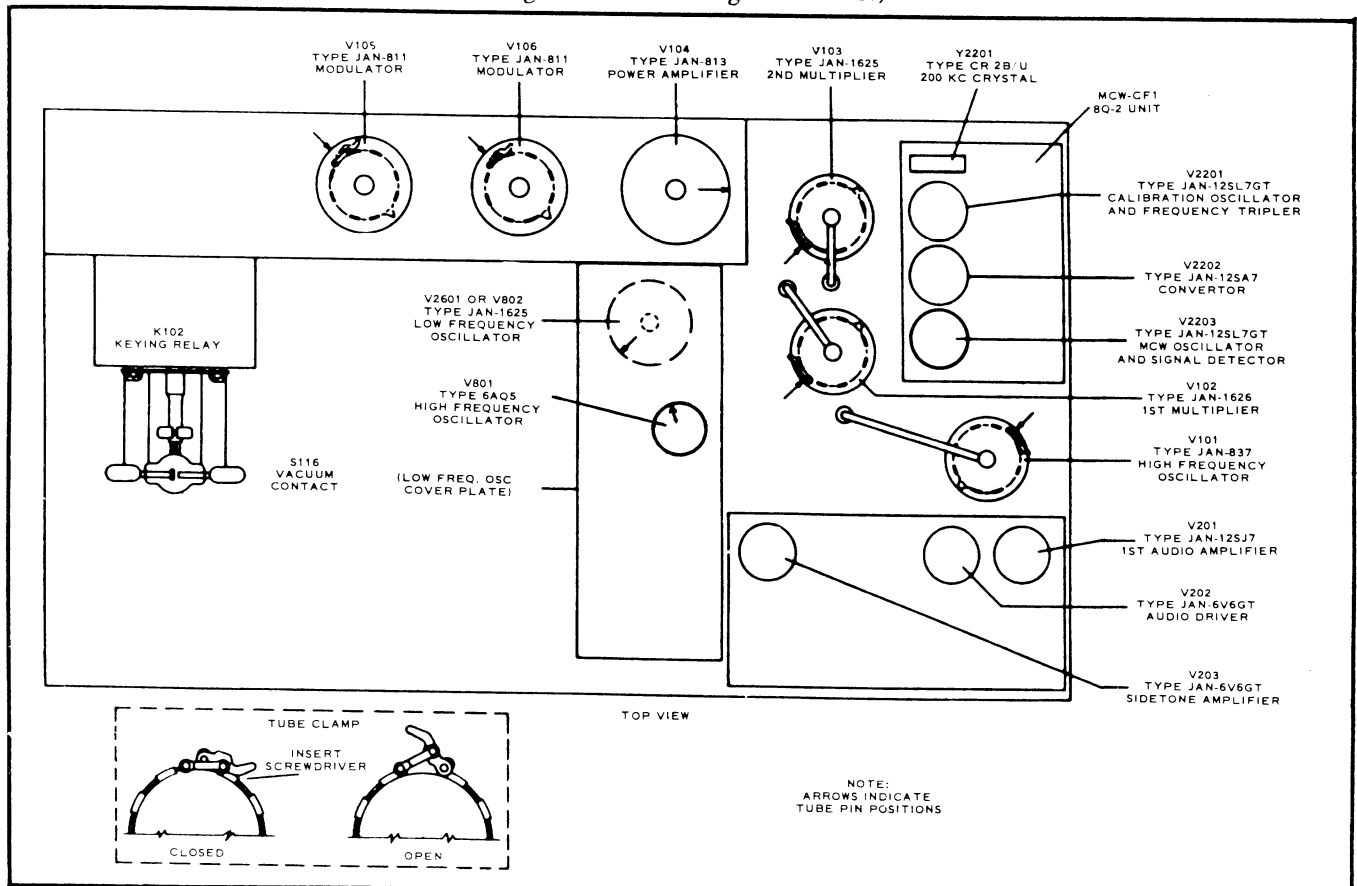
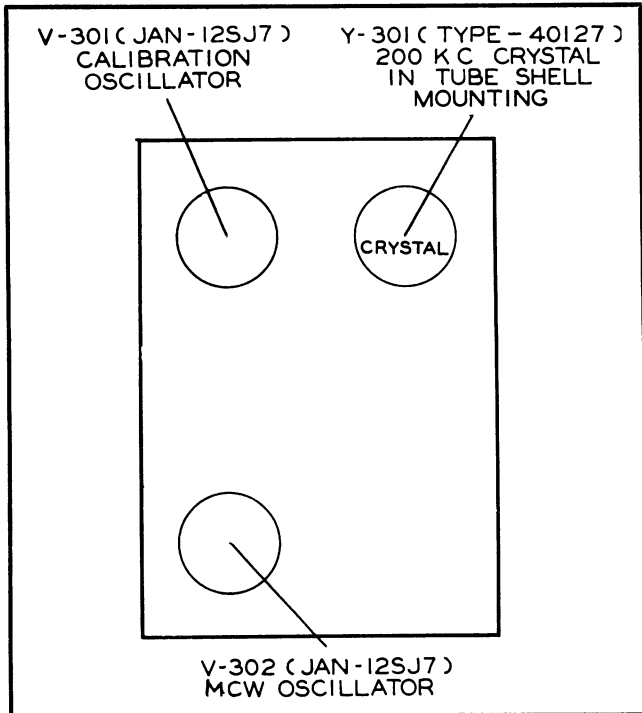

Figure 2-1—Radio Transmitter T-47A/ART-13 and Oscillator O-17/ART-13A (or Oscillators O-16/ART-13 or CDA-T)—Tube Placement Diagram
Figure 2-2—MCW-CFI 8Q-1 Unit—Tube Placement Diagram (see fig. 2-1)
1. Make sure the crystal is in the proper position and clamped securely in place. (See fig. 2-1 when MCW-CFI 8Q-2 Unit is used; see fig. 2-2 when MCW-CFI 8Q-1 Unit is used).
2. Make sure all tubes are mounted securely in the sockets and that tubes JAN-811, JAN-1625, and JAN-837 are locked properly. (See fig. 2-1 or 2-2.)